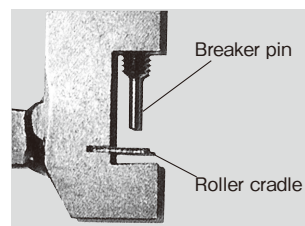

Fig. 6 Part nomenclature (RS-CS-A chain breaker)
- 1) Rotate the tommy bar (handle on top) to the left to raise the breaker and ensure there is sufficient space above the roller cradle so that the roller chain can be set. The side with the pin that has been grounded (or the cotter pin side) should face up. Insert the roller onto the roller cradle (or bush for RS25 and RS35 chains) and support the roller chain. (See Fig. 6 & 7.)